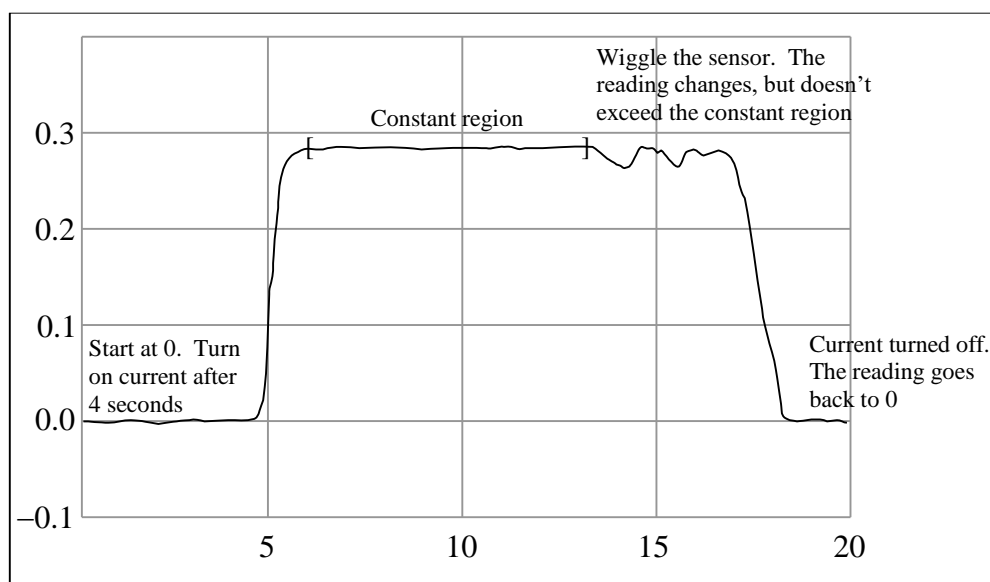

Fig 2
4. A good run should look like Fig 2. Find the mean, maximum and minimum values of the magnetic field over the constant region by clicking the  button. Record your results in a table like below. The uncertainty in  $B$  is given by  $0.5 \times (\text{Max.} - \text{Min.})$ .